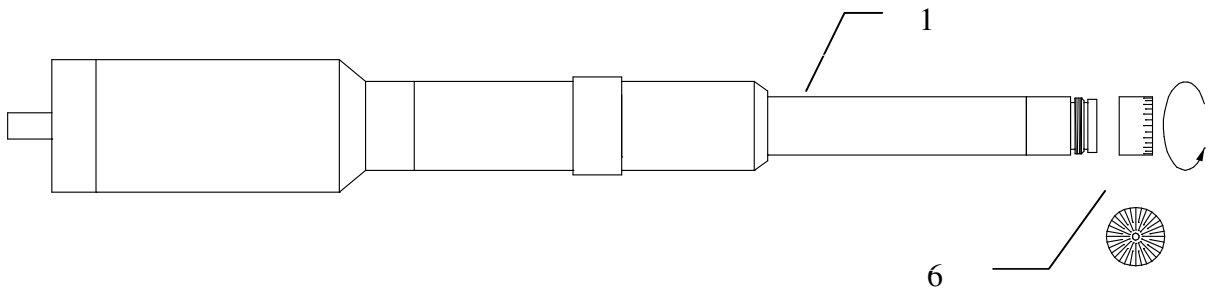

Fig. 3. Assembly of weatherproof microphone – step 3.
- Remove standard protective grid (6) from WK-21 (Fig. 3).